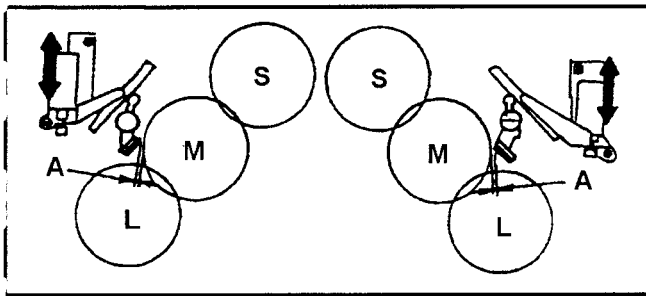

Fig. 6-10-2 Brake Solenoid Adjustment
2. Observe the clearance (A) between Brake pad and it's turntable as shown in Figure 6-10-2. And make sure that it is within 0.2 to 0.5mm.
3. If not, loosen the 2 screws (A), which fixed supply and Take Up Brake Solenoid Unit. And adjust the position of Brake Solenoid Unit by moving arrow direction so that the clearance (A) is within specification. And tighten the 2 screws (A).
4. After adjustment, change the reel position to S and L cassette size, and confirm that the clearance (A) is within specification.